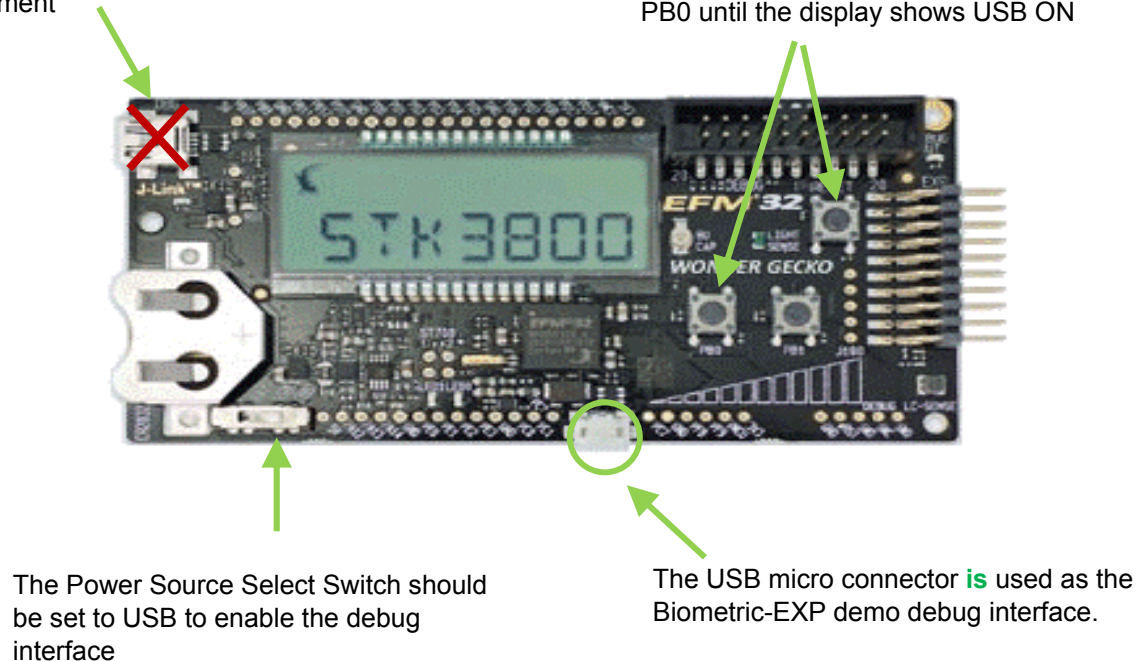

Figure 7. Enabling and Connecting to USB Debug Mode
The Biometric-EXP demo firmware includes a debug mode that enables Heart Rate Monitor and SpO2 raw samples from the sensor to be streamed to a host PC via the Gecko STK's USB interface. Only HRM and SpO2 data is available via the USB debug interface. UV, Relative Humidity, and Temperature data is not available. Enabling and connecting to USB debug mode is illustrated in Figure 7 and is described in the following sections.
In order to maintain power efficiency of the demo, the USB debug mode is disabled by default. The LCD will show “USB OFF” during startup. To enable USB debug mode, the user must hold down button PB0 then press and release the Reset button. Both buttons are on the Gecko STK as shown in Figure 7. The user should hold down PB0 until the LCD shows “USB ON.” At this point, USB is enabled and the demo will run normally. To later disable USB debug mode the user can press the Reset button without holding PB0.
Prior to using USB debug mode, the user must first install the Biometric-EXP Windows Evaluation Software. This will install the Windows applications and drivers necessary to use USB debug mode. The Gecko STK has two USB type connectors: a USB Mini type connector labeled J-Link on the short side of the EVB and a USB Micro type connector on the long side of the EVB. The USB Micro connector is used for the USB debug interface, as shown in Figure 7. In addition to using the correct physical interface, the Power Source Select switch must be set to USB (center position) for proper operation.
- Added Figure 7, "Enabling and Connecting to USB Debug Mode," on page 8.